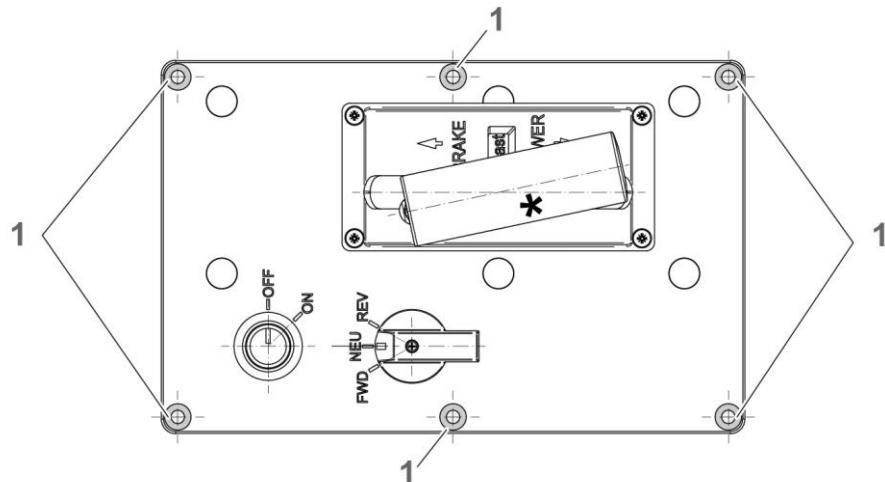

Figure 7-64: Fixing Screw of the Master Controller
1. Remove the electrical connectors (3) to the Master Controller (1). See Figures 7-64 and 7-65.
2. Remove the ten M6 x 16 screws (2).
3. Carefully remove the Master Controller (1).